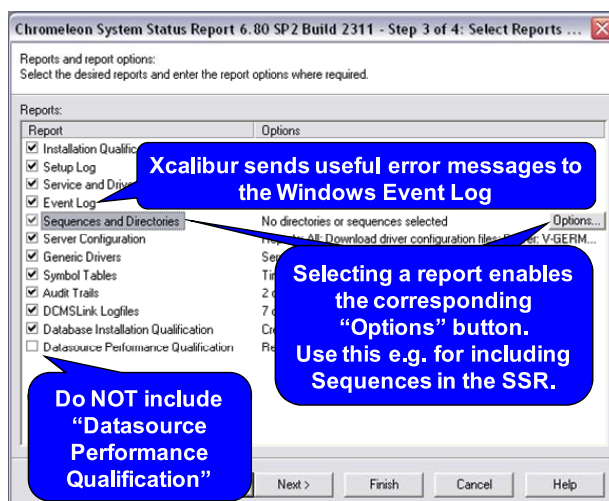

Fig. 2 Selecting Reports to be included in the System Status Report.
3. On the “Select Reports” page (Fig. 2) select the reports you want to include. If you are uncertain which reports should be included, select all of them, except the last item (“Datasource Performance Qualification” is currently only compatible with full Chromeleon installations).